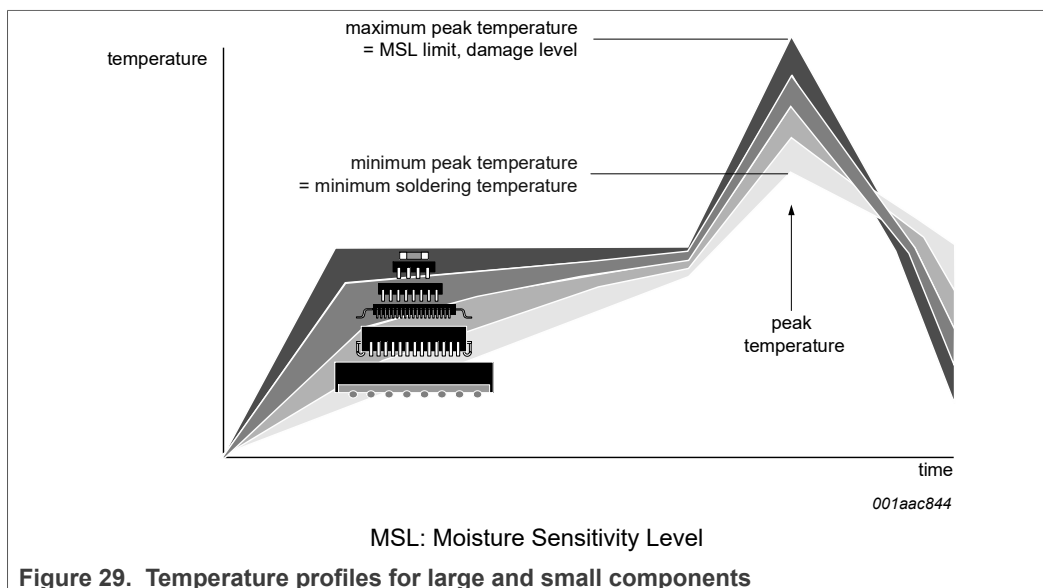

Figure 29. Temperature profiles for large and small components
- Lead-free versus SnPb soldering; note that a lead-free reflow process usually leads to higher minimum peak temperatures (see Figure 29) than a SnPb process, thus reducing the process window
Studies have shown that small packages reach higher temperatures during reflow soldering, see Figure 29.